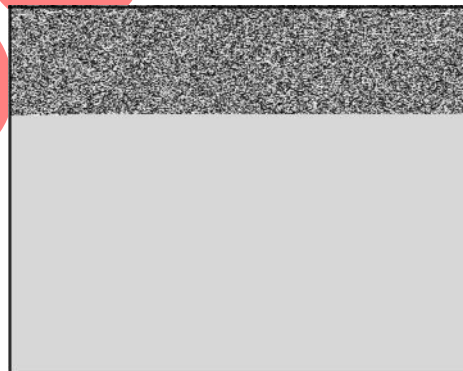

Figure 19
3. Install new foam seal (**C**, Figure 19) on throttle shaft (**B**), then slide shaft into carburetor body. Rotate shaft until flat is facing out. Position throttle valve on flat with numbers facing out (**A**), then install screws (**D**). Actuate the throttle shaft to check for proper movement.